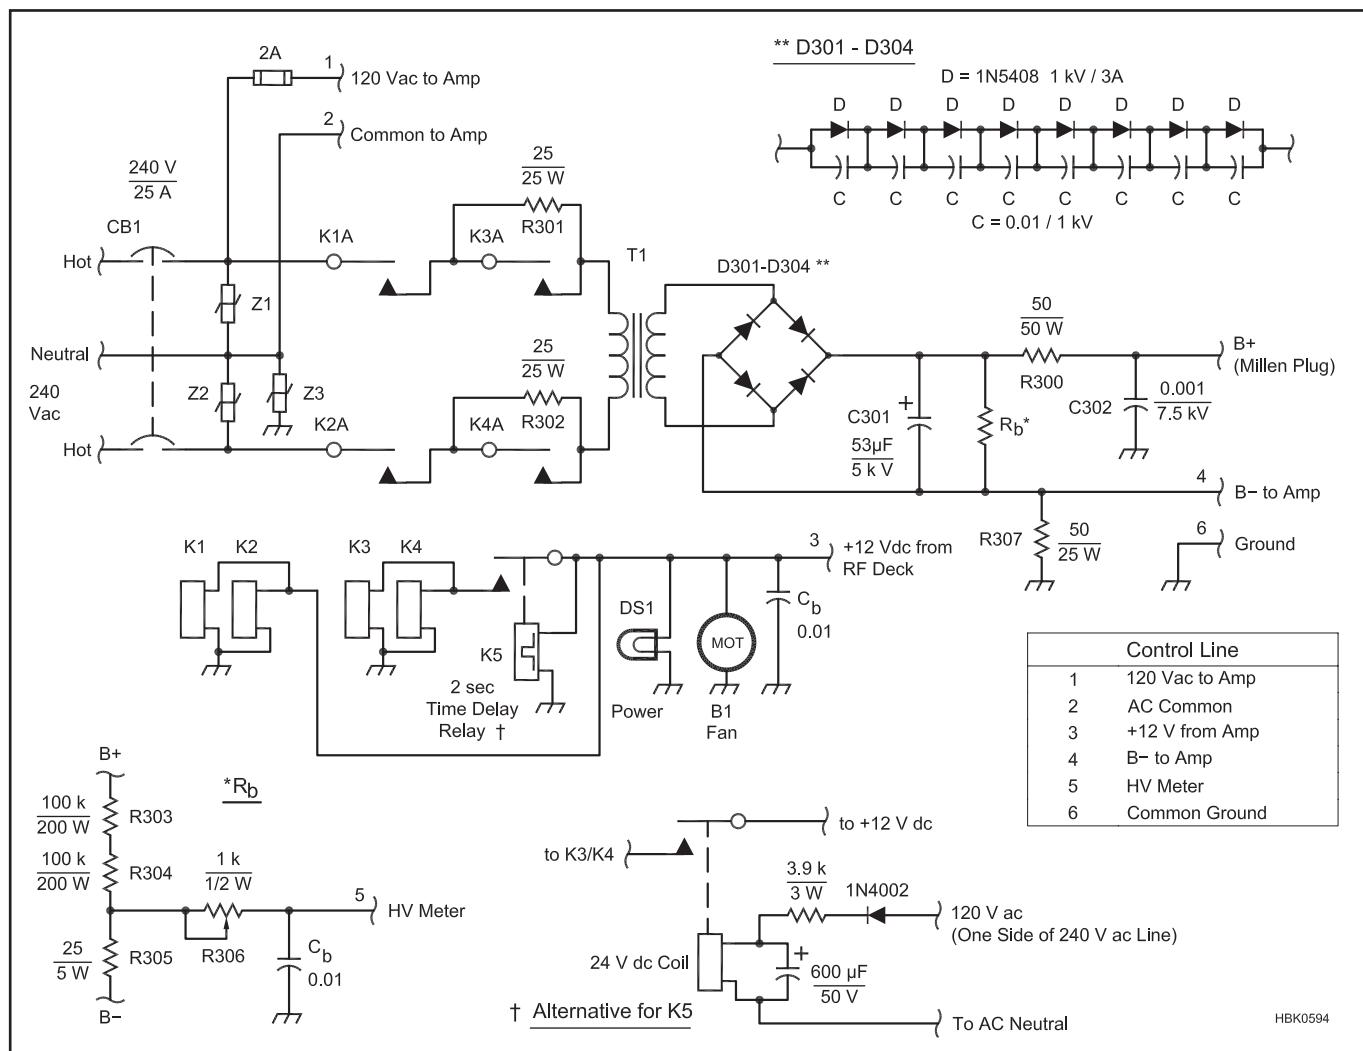

Fig 17.58 — Schematic for power supply for 3CX1500D7 amplifier. A complete parts list is available on the *Handbook* CD-ROM.
cabinet with casters and is connected to the RF deck using a 6-conductor control cable, with a separate high voltage (HV) cable. The power transformer has multiple primary taps (220/230/240 V ac) and multiple secondary taps (2300/2700/3100 V ac). No-load HV ranges can be selected from 3200 to 4600 V dc using different primary-secondary combinations. The amplifier is designed to run at 4000 V dc under load to maintain a reasonable plate resistance and component size. A step-start circuit is included to protect against current surge at turn on that can damage the diode bank. The power supply schematic is shown in **Fig 17.58** and a photo of the inside of the power supply is shown in **Fig 17.59**.